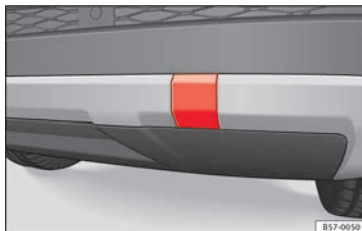

Fig. 100 Rear bumper on right: remove the lid.
The housing of the screw towing eye is on the right side of the rear bumper behind a lid » Fig. 100. Vehicles equipped as standard with a towing bracket **do not** have any housing for the screw towing eye behind the lid. In this case, the tow hitch needs to be extracted
- Press the upper side of the lid » Fig. 100 to unclip it.